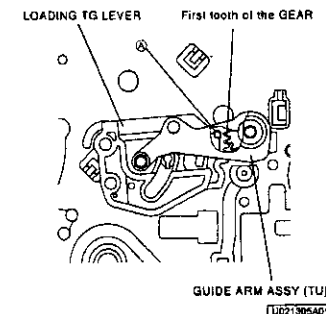

Fig. 2-13-5
- 7 Install the GUIDE ARM ASSY (TU) so that the first tooth of the gear of the GUIDE ARM ASSY (TU) shown in Fig. 2-13-5 matches with hole (A) of the LOADING TG LEVER.